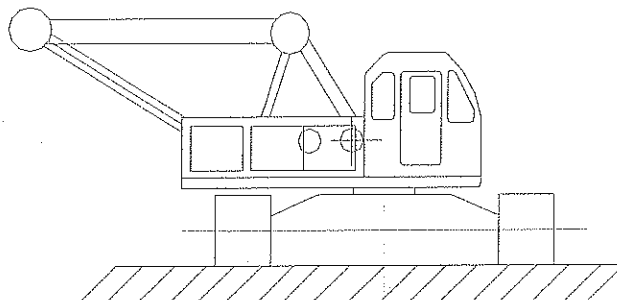

Figure 3-8
(1) Seat the main machine on a solid and flat ground, keep the machine horizontal, and turn the turn table to the side of the crawler (see Figure3-8).